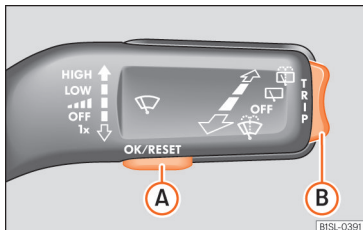

Fig. 34 Windscreen wipers lever: control buttons.
- If a message or vehicle symbol is displayed, press **OK/RESET** (»» Fig. 34 **A**).
- Press the top or bottom part of the rocker switch »» Fig. 34 **B** until the desired option appears.